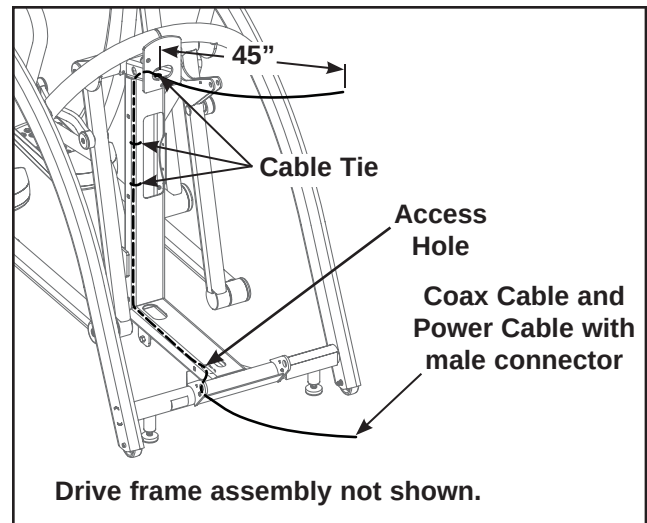
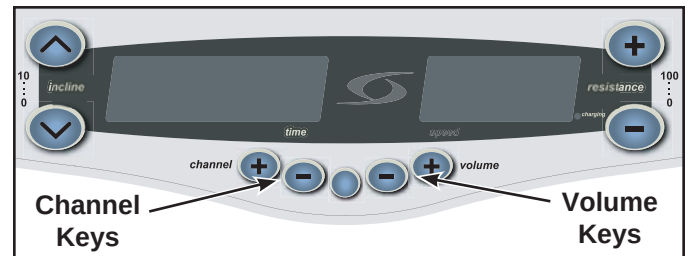

Figure 10
Figure 24
- A. Using a side cutter, cut the three cable ties. See Figure 10.
- B. Locate the coax and power cable (F).
- D. Measure out 45" of cable from top of frame as shown in Figure 10.
- E. Route the cable inside top of frame as shown in Figure 10.
- F. Pull rest of cable through the access hole. See Figure 10.
- G. Attach three cable ties (P) replacing the ones removed in step 11A. See Figure 10.
- A. Pull the loose coax and power cables through the access hole. See Figure 10.
- B. Tighten the three cable ties securely. See Figure 10.
- A. Locate the AC/DC adapter (GG) supplied with the monitor and plug into the power cable exiting the base of the Arc.
- B. Plug the power cord (HH) into the AC/DC adapter (GG). **NOTE:** Power cord (HH) varies by country.
- B. Plug the power cord (HH) into a wall outlet.
- D. Refer to Chapter 3 of the Personal Entertainment Monitor Manual (LT-20191) regarding use of the channel and volume keys located on the lower center of the Arc console. See Figure 24.